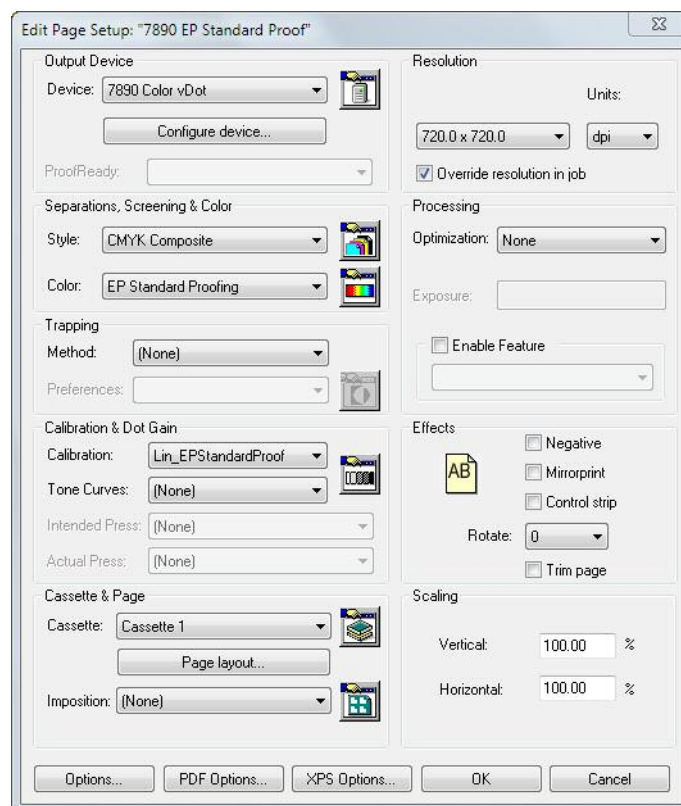

Figure 8 Page Setup dialog
2. In the Page Setup Manger, click New to create a new page setup (or Edit to amend an existing page setup), to open the New/Edit Page Setup dialog (Figure 8).
Select the RIP resolution in the top right corner of the Page Setup dialog. In Figure 8 the normal resolution for high quality proofs, 720 by 720 dpi is selected.